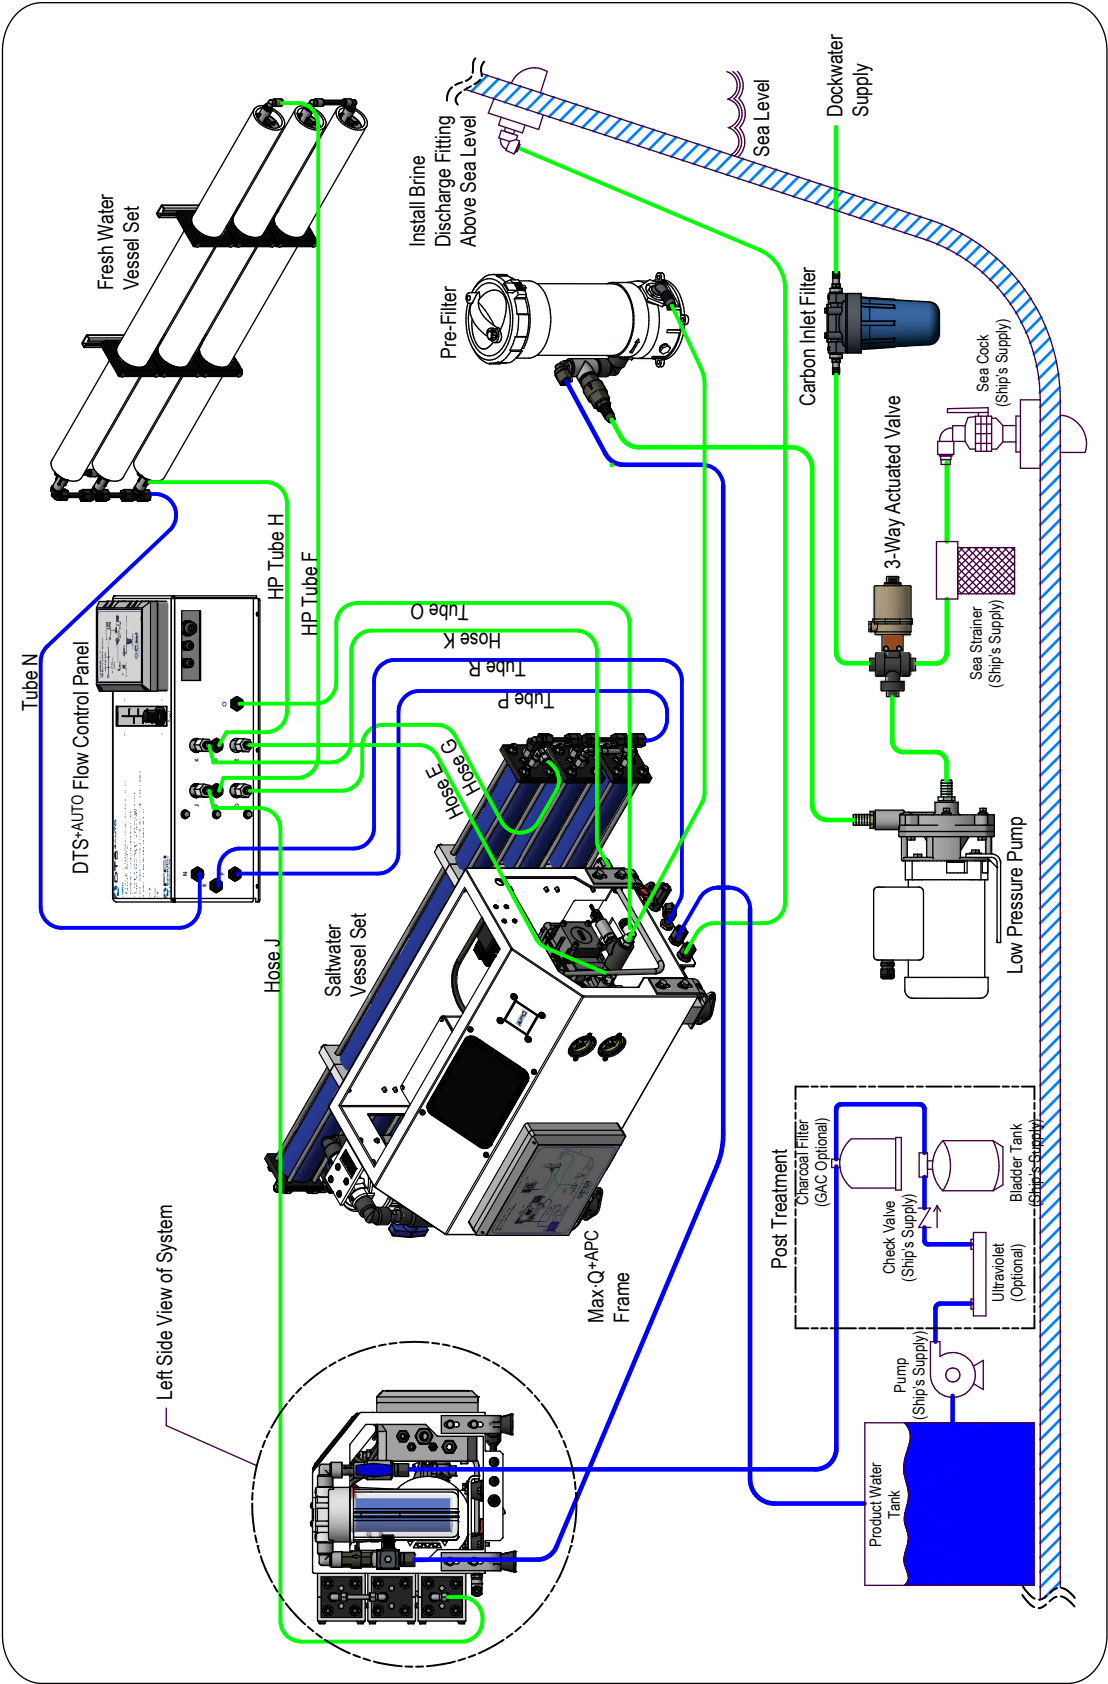

Figure 24: Max-Q+APC Frame 1,850 GPD with DTS+AUTO
- "Figure 24: Max•Q+APC Frame 1,850 GPD with DTS+AUTO" on page 46